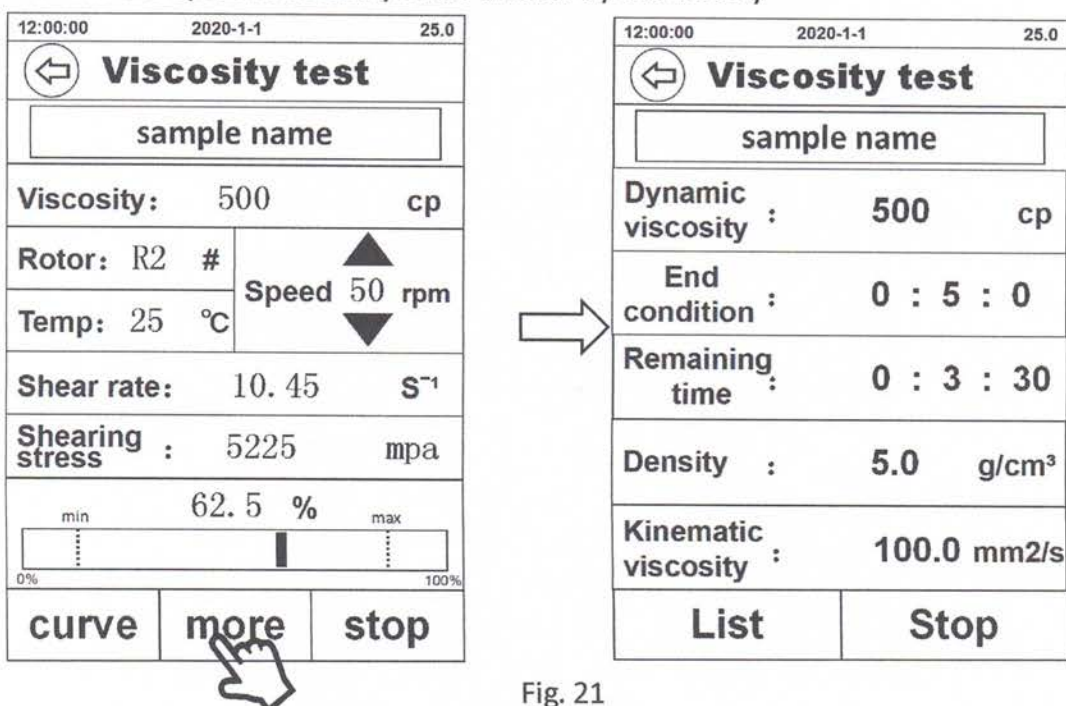

Fig. 21
5) Click “More” during the test. The content displayed on this interface is the previous optional parameters (Fig. 21). If it is not set before the test, the data will be displayed as zero.